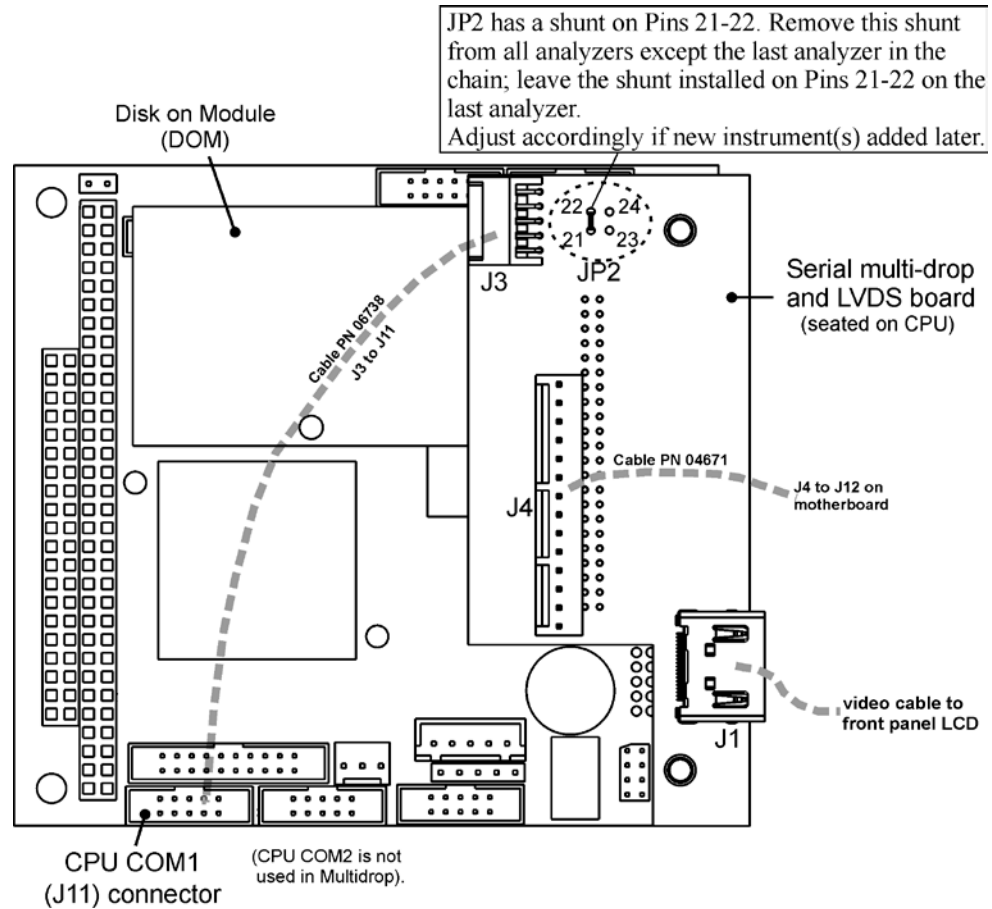

Figure 4-9. Jumper and Cables for Multidrop Mode
In each instrument with the Multidrop option there is a shunt jumpering two pins on the serial Multidrop and LVDS printed circuit assembly (PCA), as shown in Figure 4-9. This shunt must be removed from all instruments except that designated as last in the multidrop chain, which must remain terminated. This requires powering off and opening each instrument and making the following adjustments:
2. On the Multidrop/LVDS PCA's JP2 connector, remove the shunt that jumpers Pins 21 ↔ 22 as indicated in Figure 4-9. (Do this for all but the last instrument in the chain where the shunt should remain at Pins 21 ↔ 22).
3. Check that the following cable connections are made in *all* instruments (again refer to Figure 4-9):